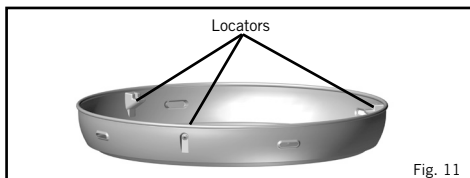

Fig. 11
- The BBQ Grid locates on three die-cast locators in the fat pan (Fig. 11).
- The Chef Pan locates on three die-cast locators in the fat pan (Fig. 11).
- The Grill @ Braai locates on three die-cast locators in the fat pan (Fig. 11).